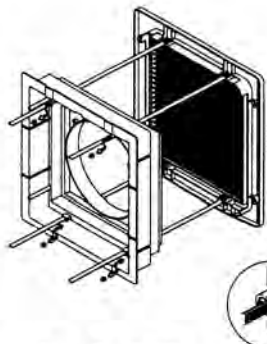
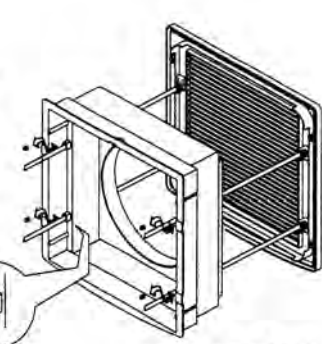

Fig. 4a WX9
Fig. 4b WX12
8. Offer the Fan Mounting Box to the inner wall face and locate ladder strips into their location fixings (Fig. 4a and Fig. 4b).
10. Screw the slotted screws (packed separately) into the pockets of the Fan Mounting Box. (Fig. 4a and Fig. 4b). **Do not overtighten.**